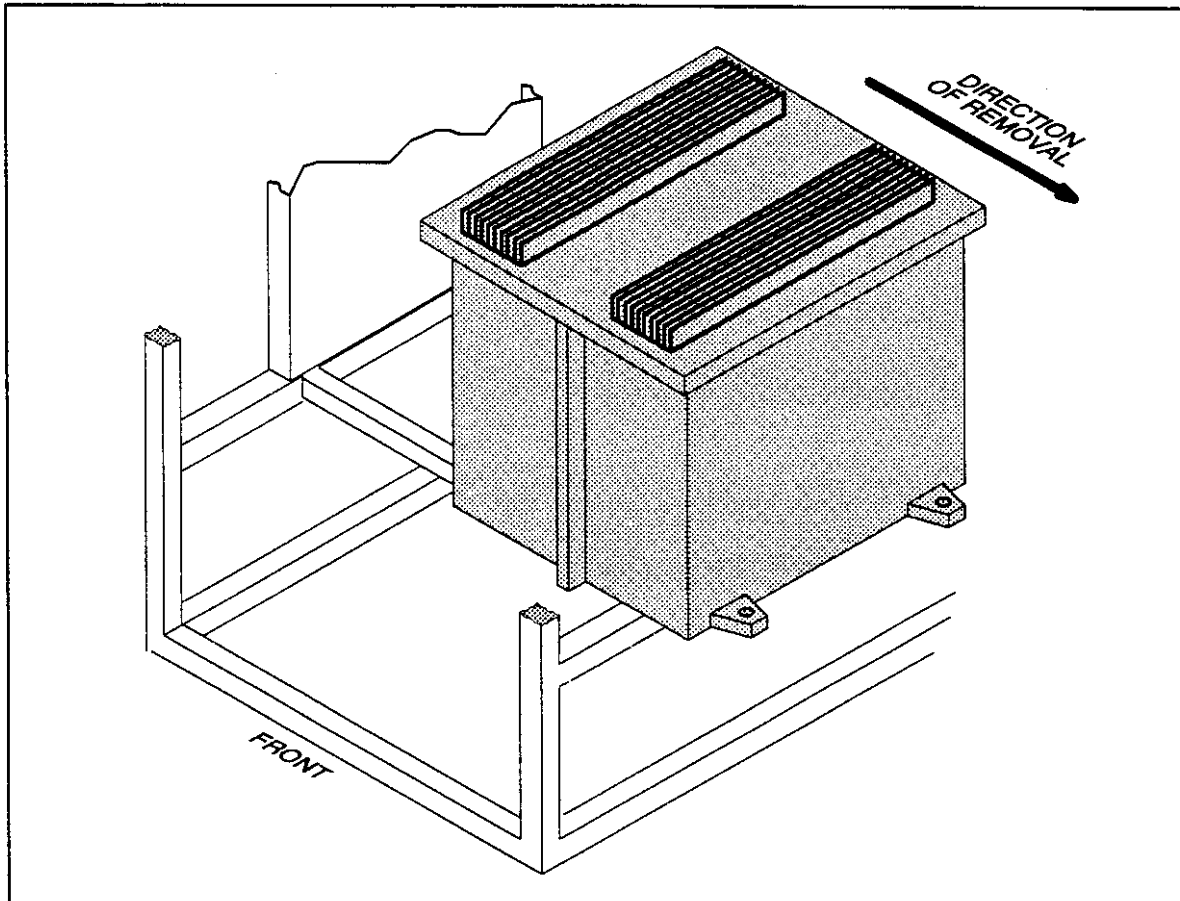

Figure 53. Modulator Removal.
- m. Remove the four mounting screws at the base of the modulator and remove the modulator from the right side of the transmitter. Refer to Figure 53.